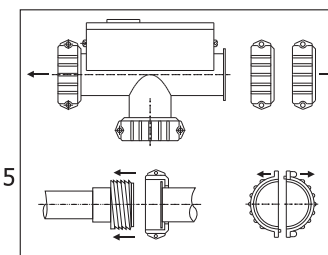

Fig. 5
- 2.5 Heater installation:(Fig.5)